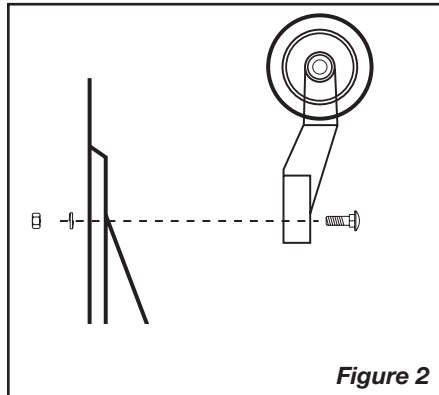

Figure 2
Locate Hardware Bag "D" to Assemble Wheels to Base. *(Figures 2 and 3)*
4. Align two bolt holes and insert 5/16 - 18 X 1" **Long Carriage Bolt**. *(Figure 2)*